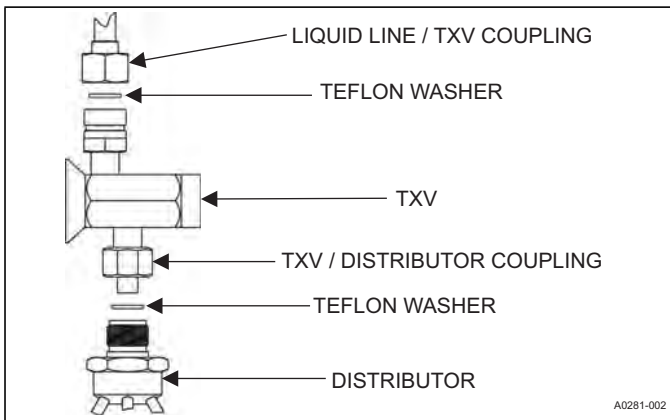

FIGURE 5: TXV Installation
5. Install the thermal expansion valve to the distributor assembly with supplied fittings. Ensure Teflon washer is seated in distributor. Hand tighten and turn an additional 1/4 turn to seal. Do not over tighten fittings. See Figure 5.